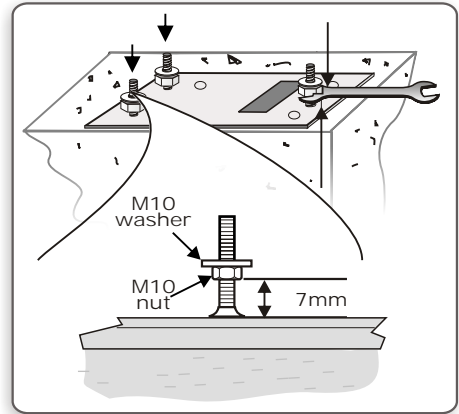

FIGURE 15
1. Fit the M10 nuts and washers to the mounting bolts as shown in Figure 15.